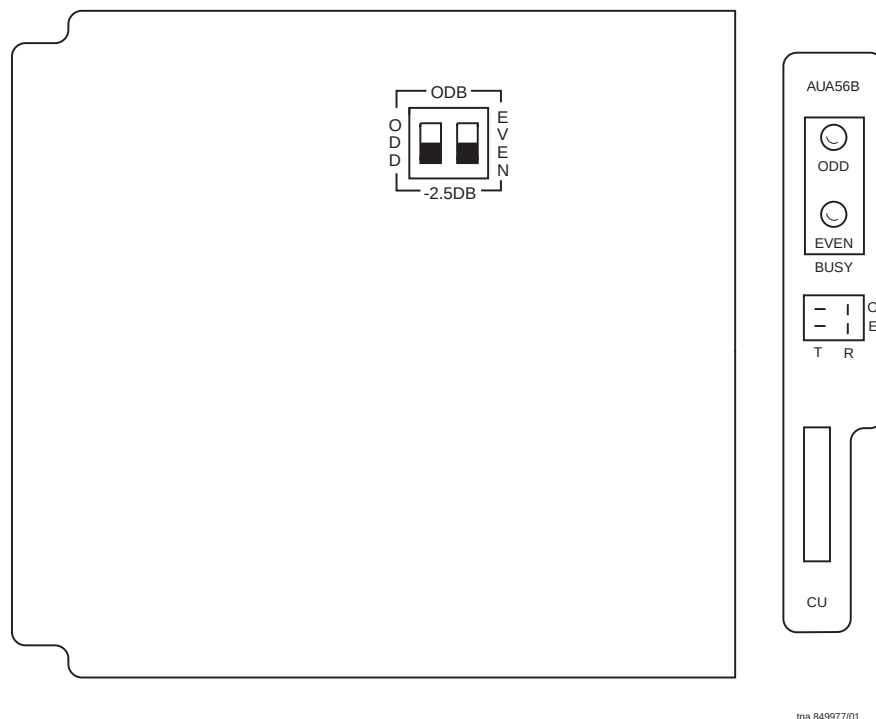

Figure 9 – AUA56B Channel Unit Option Switches
43. Locate the **ODD/EVEN** rocker switches located on the side of the channel unit printed wiring board (refer to Figure 9). Refer to the work order records for correct switch settings and set the **ODD** rocker switch to either **0 DB** or **-2.5 DB** for the odd channel. Set the **EVEN** rocker switch to either **0 DB** or **-2.5 DB** for the even channel